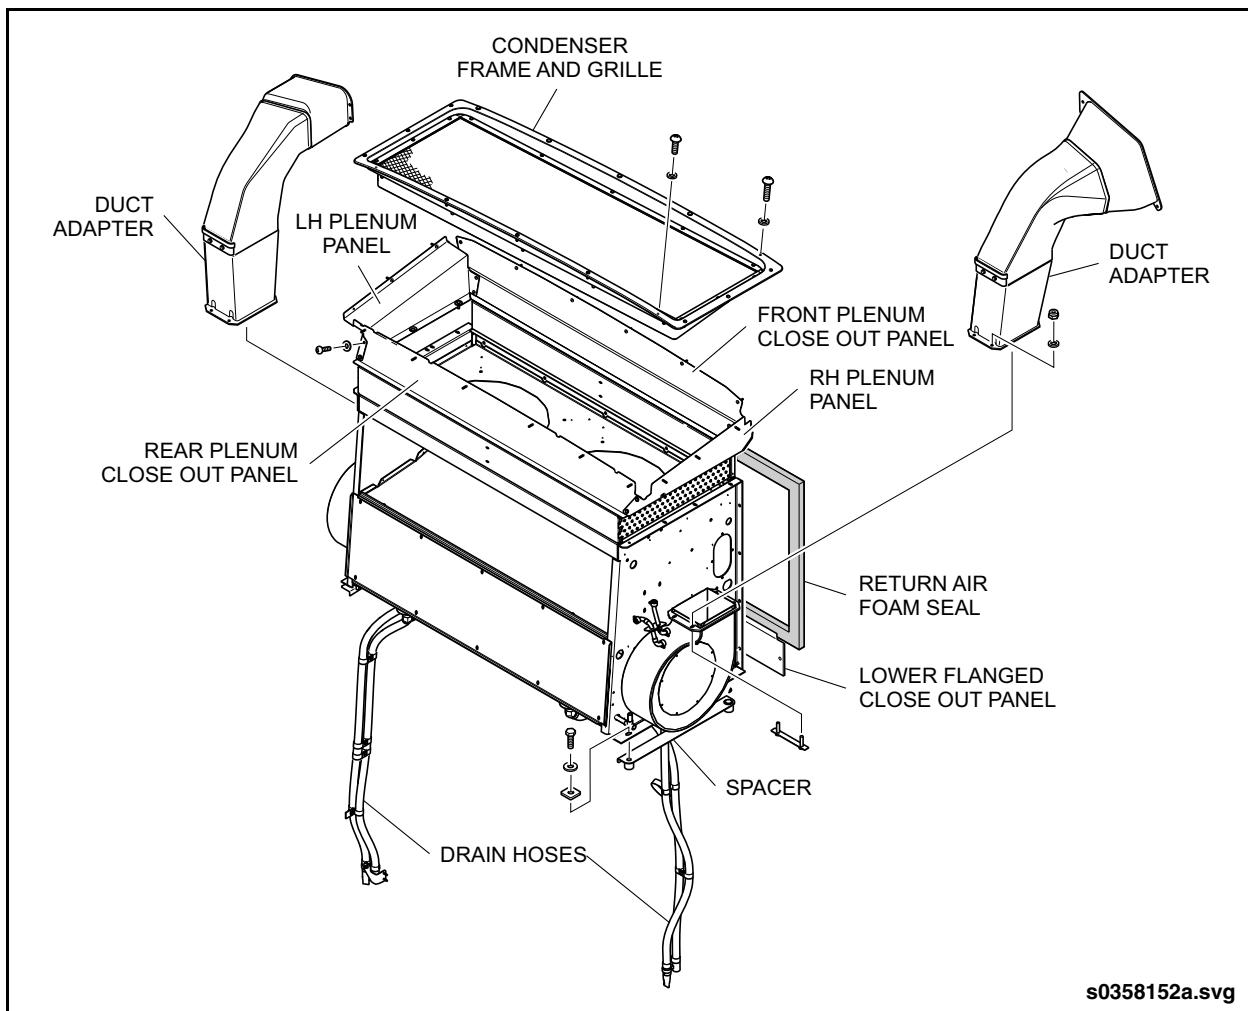

Fig. 10-5: HVAC Unit
10. Remove the fasteners and disconnect the fan outlet ducts on either side of the HVAC unit. See "Fig. 10-5: HVAC Unit" on page 18.